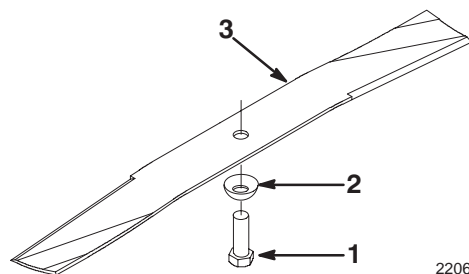

Figure 25
4. **REMOVING BLADE**—Grasp end of blade using a rag or thickly padded glove. Remove blade bolt, washer and blade (Fig. 25).
6. Reinstall sharp, balanced blade, washer and blade bolt. Sail part of blade must point toward top of mower housing to ensure correct installation. Washer is curved and must be reinstalled with curve side down as shown in (Fig. 25). Tighten blade bolt to 35-40 ft-lb (48-54 N · m).